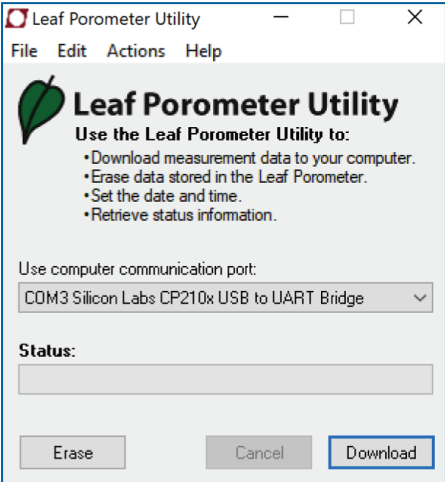

Figure 23 Leaf Porometer Utility main window
- Open Leaf Porometer Utility (Figure 23).
- Click **Erase** (Figure 23).